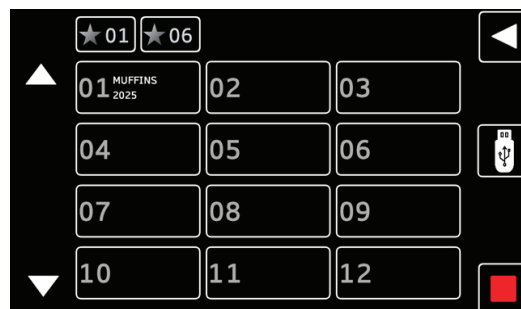

Figure 18-1.
1. Select one of the two “star” buttons to add one of the programmed recipes to a favorite button. (Figure 18-1).